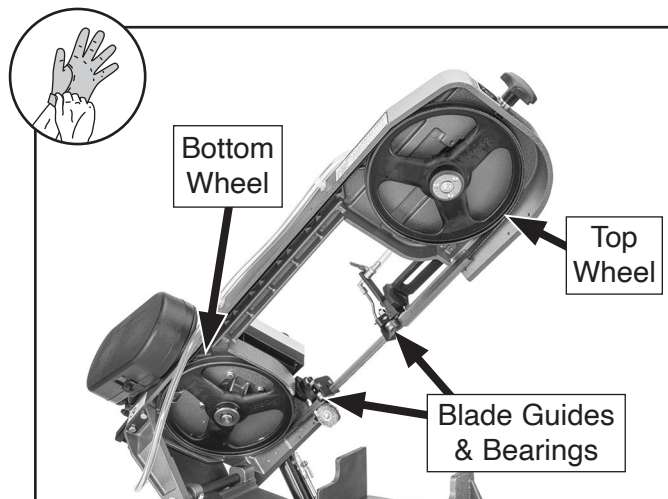

Figure 40. Example of blade around wheels and through blade guides.
9. Insert new blade through blade guides and blade guide bearings (see **Figure 40**), then position it around bottom wheel.
10. Keep blade around bottom wheel and between blade guides with one hand, then slip blade around top wheel with other hand (see **Figure 40**).